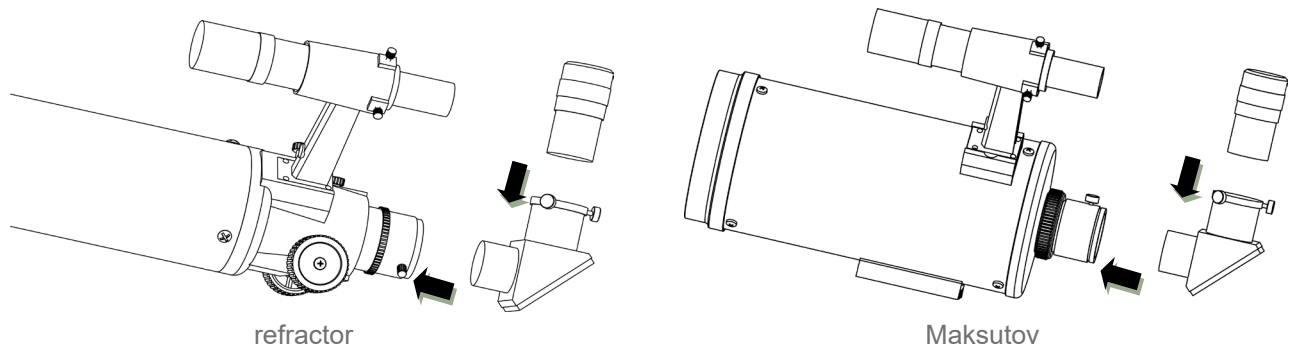

Fig.19
1. Inserting eyepiece for refractor and Maksutov (Fig.19)